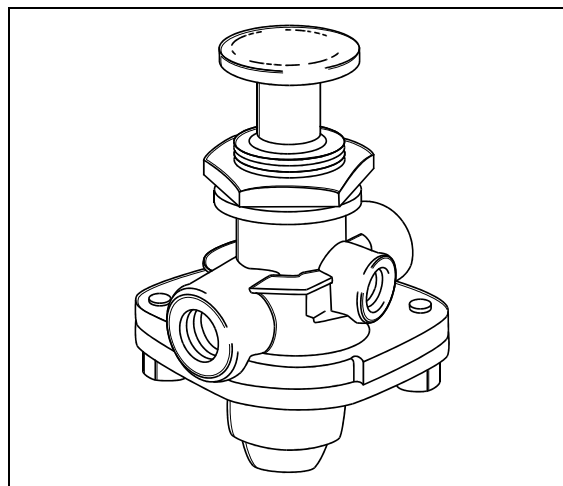

FIGURE 11: RD3
2. Access this valve by tearing out the finishing panel, which holds the controls in place (Fig. 11).